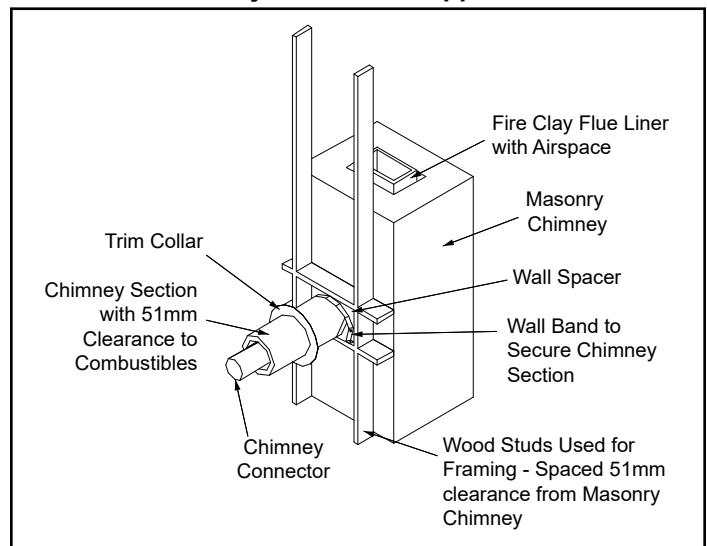

Figure 4.4
3. Construct a 432mm x 432mm outside dimension frame from 2 x 2 framing lumber to fit into wall opening. Inside opening of frame should be no less than 356mm x 356mm, Figure 4.4. Attach the wall spacer to the chimney side of the frame.